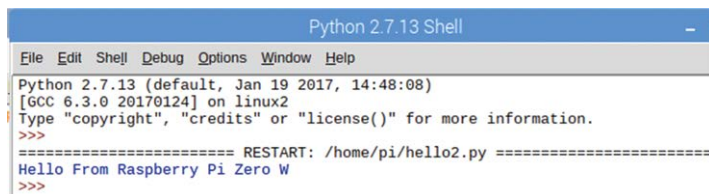

Figure 2.20 Output of the program
- A new screen will be shown with the output of the program displayed as in Figure 2.20